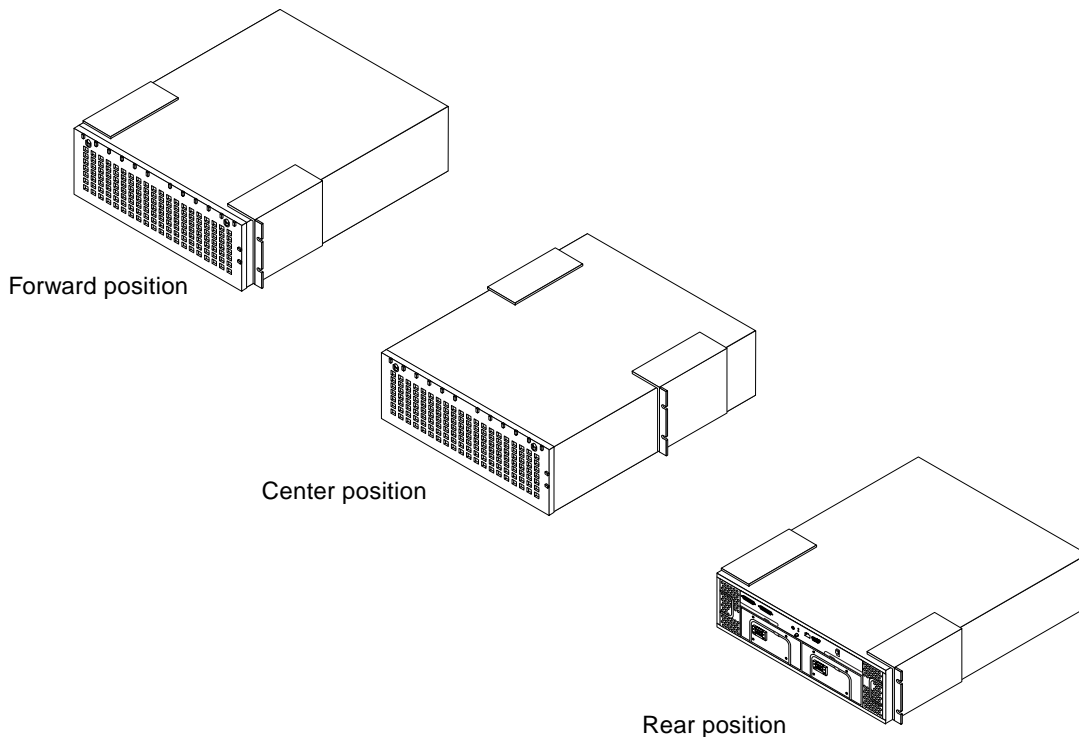

FIGURE 3-7 Adjusting the Mounting Brackets
1. Determine if you want to mount the Netra st system in the forward, center or rear position (FIGURE 3-7).
- If you are moving the brackets to the *center* position, simply slide the brackets to the position shown in FIGURE 3-7.
- If you are moving the brackets to the *rear* position, flip the brackets 180° so that the brackets face the rear of the system, then move the brackets to the position shown in FIGURE 3-7.